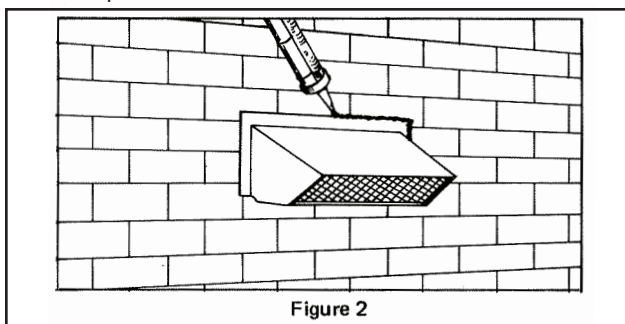

Figure 2
4. Caulk all around flange with high-quality caulking compound. (Fig. 2)
6. Seal all around flange with high-quality caulking compound. (See Fig. 2)